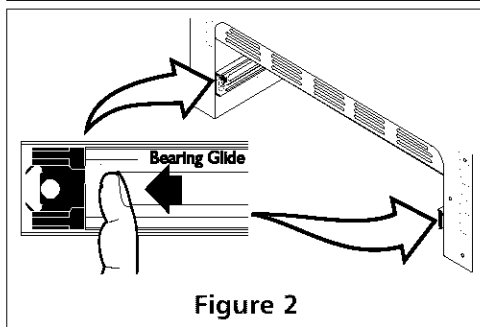

Figure 2
1. Pull the bearing glides to the front of the chassis glide (see figure 2).
3. To lift out the bottom panel, place fingers in the slots in the bottom. Lift the rear of the panel up and back until it is clear of the lip at the front of the panel (Figure 2).